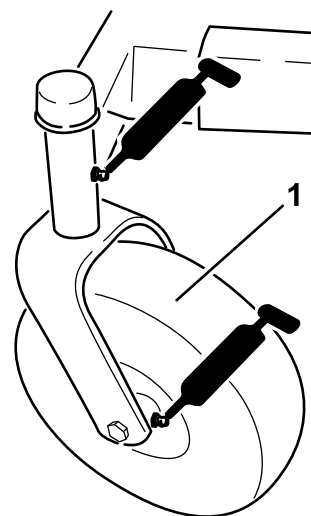
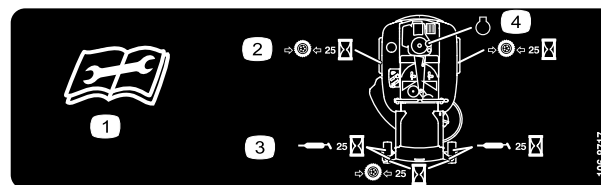

Figure 27
Figure 28
3. Clean the grease fittings (Figure 27 and Figure 28) with a rag. Make sure to scrape any paint off of the front of the fitting(s).
4. Connect a grease gun to each fitting (Figure 27 and Figure 28). Pump grease into the fittings until grease begins to ooze out of the bearings.